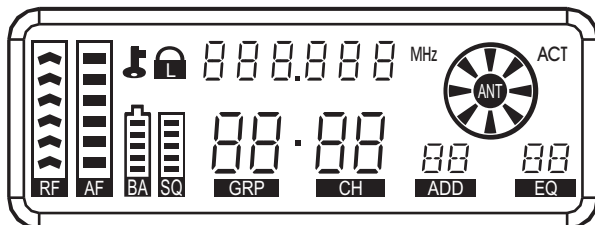

Fig. 10
2. Lightening VFD Screen, Fig. 10: